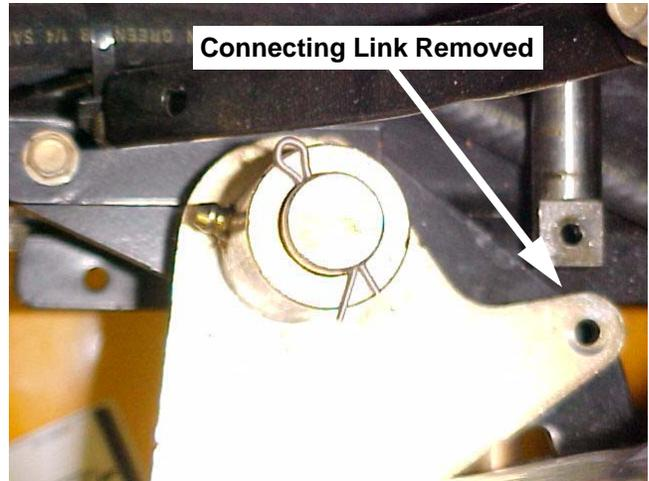

FIGURE 6
10. Remove the bottom half of the connecting link from the steering arm and synchro gear rack. See Figure 6.